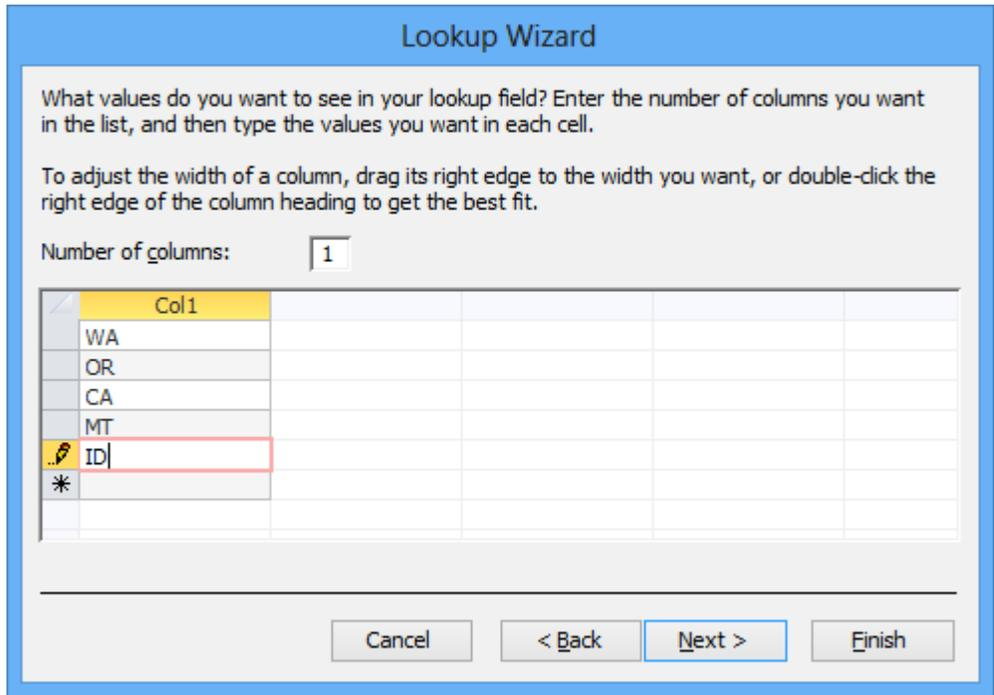

Figure 46: Data Typed into the Column
2. **Type Values into the *Lookup* Column:** Leave the column setting at “1”. Click in the first column and type “WA”. Use the **Tab** or **Arrow Down** key (do not hit **Enter**) and go to the next row and type “OR”. In the following rows type “CA”, “MT”, and “ID” (see Figure 46). Click **Next**.